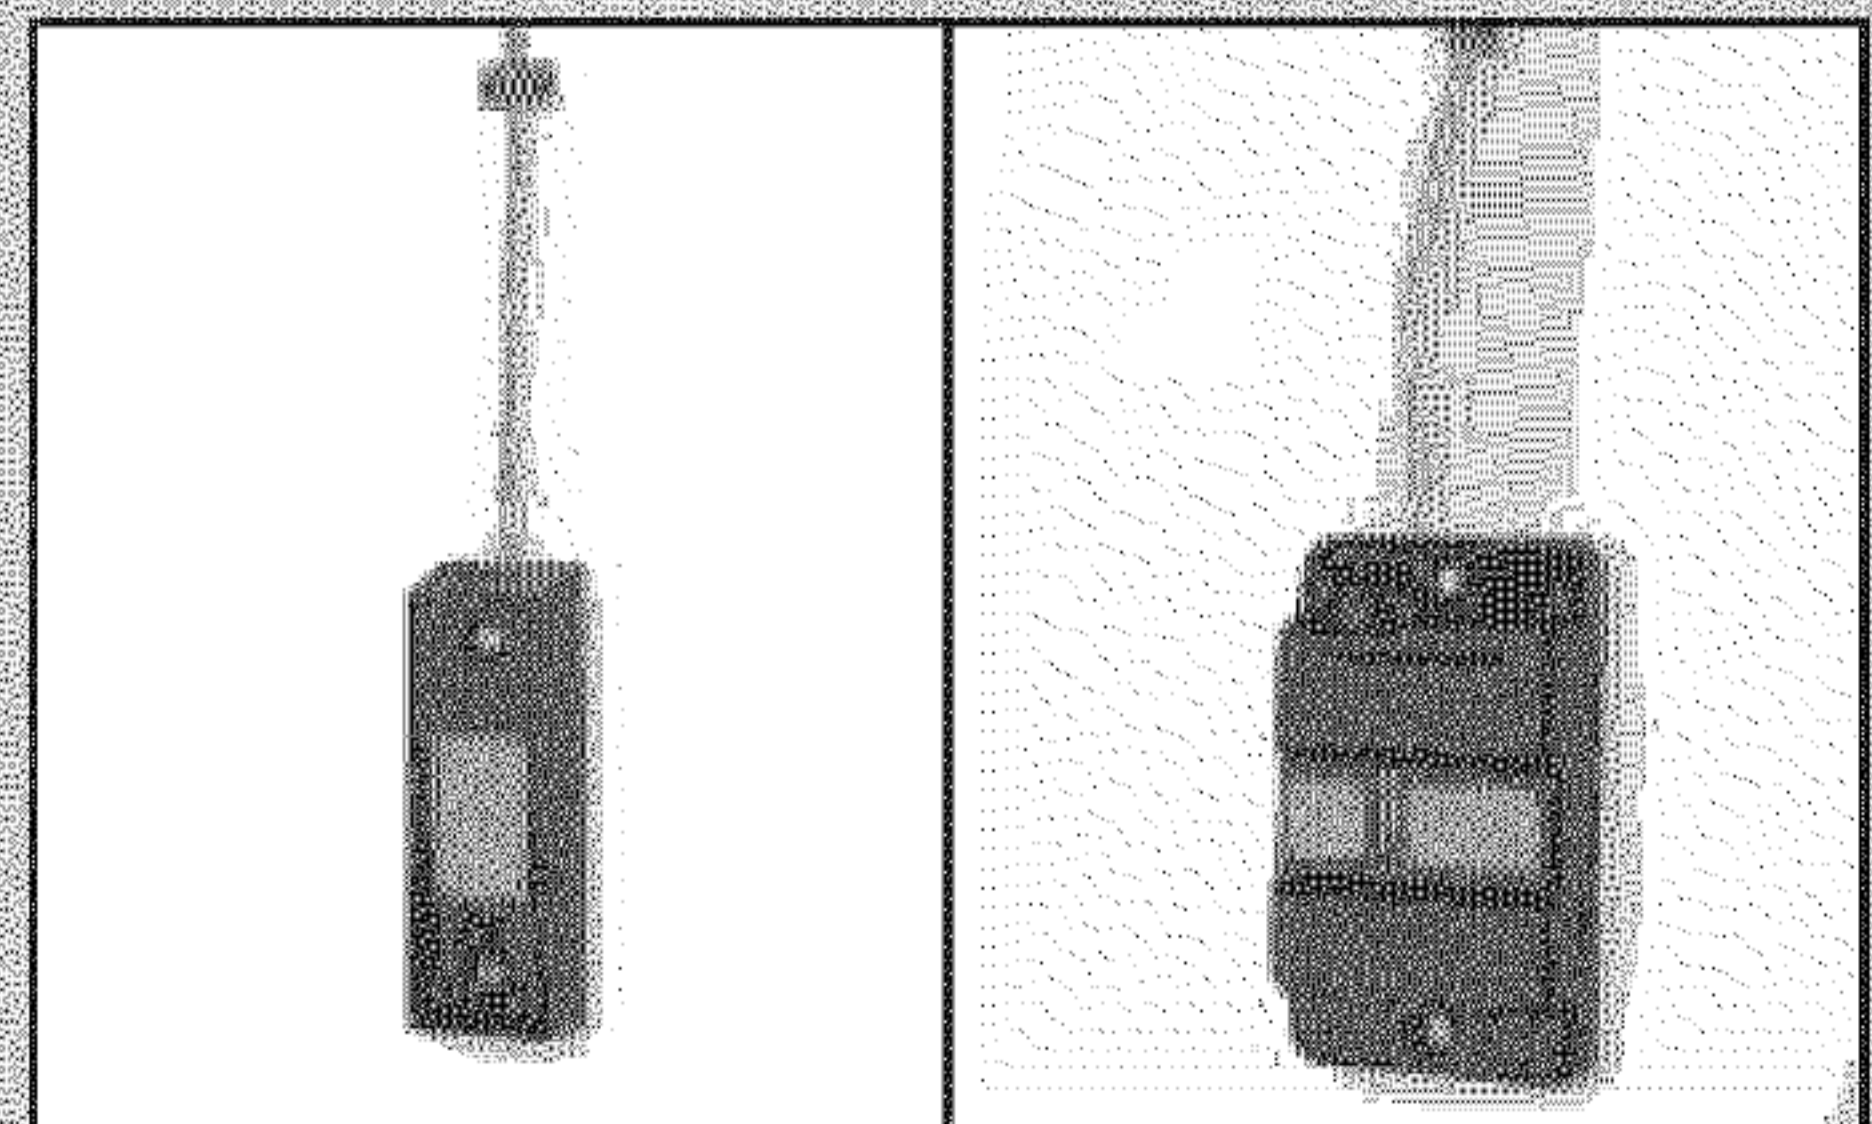

FIG. 5-3 Mounting wall control.
- Fasten wall control to wall with 2 screws (33) (Fig. 5-3).